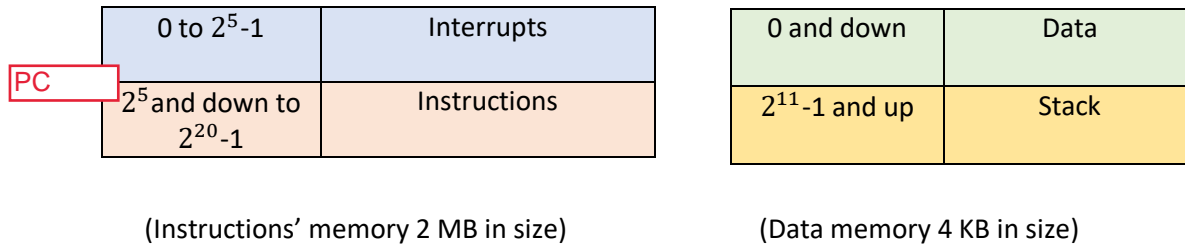

Figure.1 Memory Units
The program counter (PC) spans the **instructions memory address** space that has a total size of **2 Megabytes**. Each memory address has a **16-bit width** (i.e., is word addressable). The instructions memory starts with the **interrupts area** (the very first address space from [0 down to 2^5-1]), followed by the **instructions area** (starting from [2^5 and down to 2^{20}]) as shown in Figure.1. By default, the PC is initialized with a value of (2^5) where the program code starts.
The data memory starts with the **data area** (the very first address space and down), followed by the **stack area** (starting from [$2^{11} - 1$ and up]) as shown in Figure.1. By default, the stack pointer (SP) pointer points to the top of the stack (the next free address available in the stack), and is initialized by a value of ($2^{11}-1$).